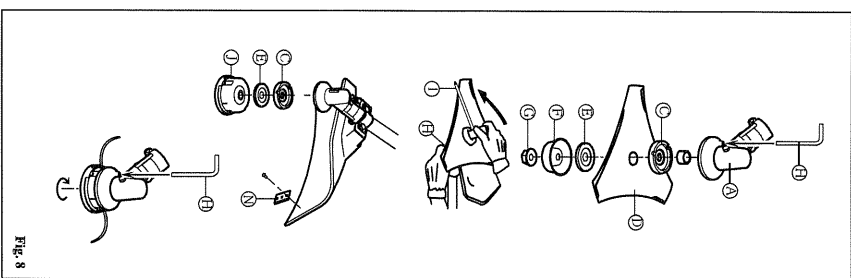

Fig. 8
5. Installation of cutter (Fig. 8)